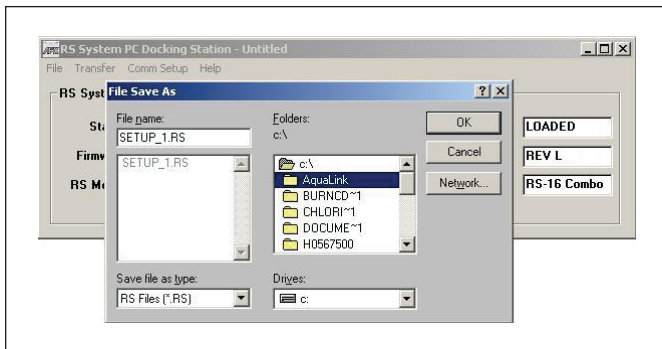

Figure 8. Save As Dialog Box
- After the data transfer is complete, you can save the setup data to a file. From the **File** menu, choose **Save As**. The File Save As dialog box opens and allows you to name the file as well as specify the directory (folder) where you want to store the data (see Figure 8).